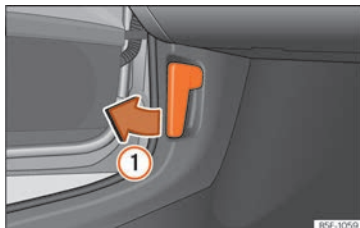

Fig. 314 Release lever in the driver's footwell area.
- Open the door and pull the lever under the dashboard »» Fig. 314 ①.